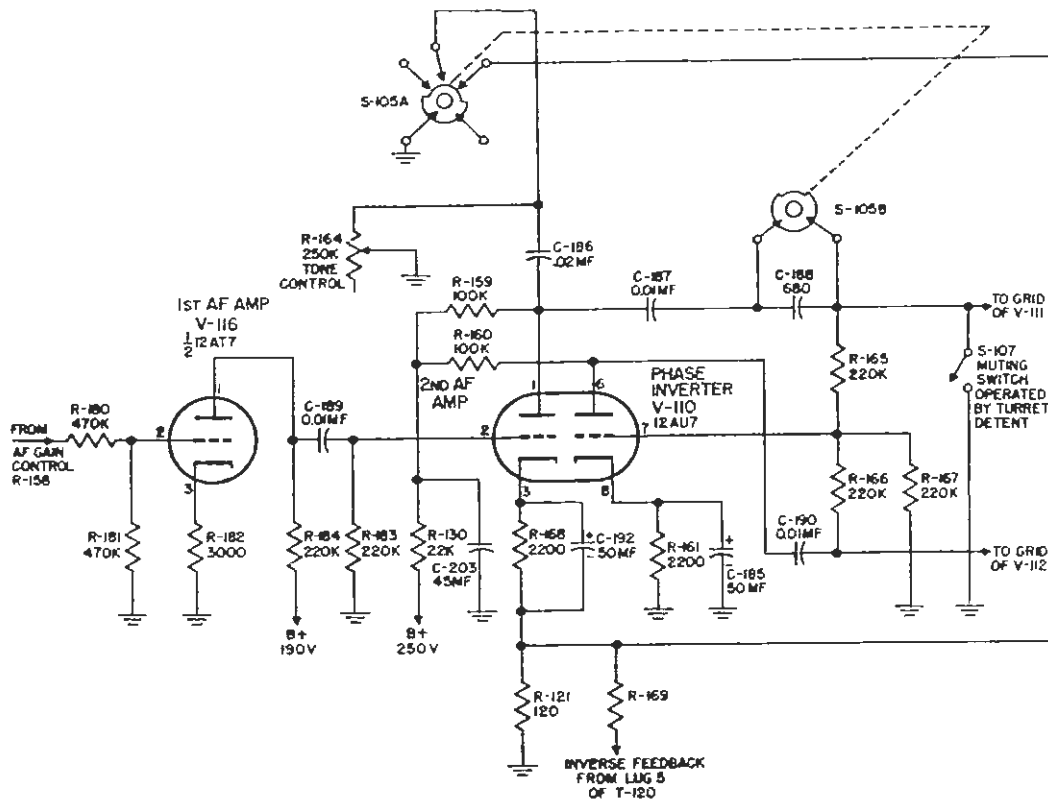

Figure 2-11. Audio Amplifier and Phase Inverter Circuits.
R-169. (See figure 2-11 and paragraph b (1) (a).) As a result the audio bandwidth of the receiver is made narrower to suit beat note reception.
(1) **AUDIO AMPLIFIERS AND PHASE INVERTER (V-116 and V-110).** (See figure 2-11.)